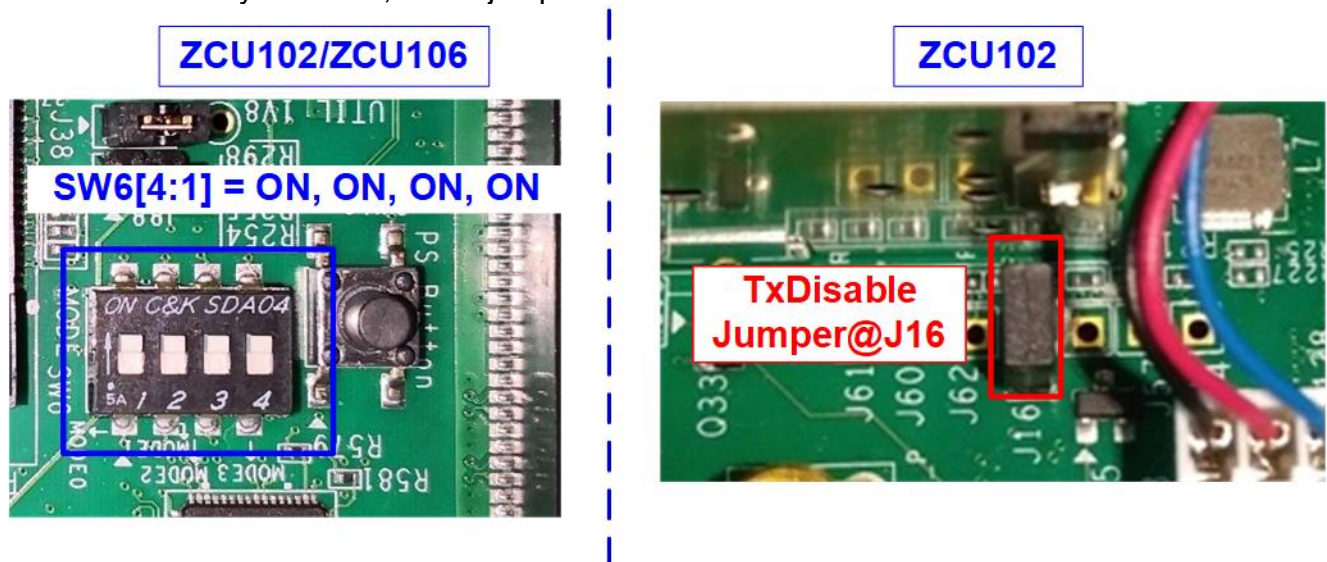

Figure 2-1 ZCU102/ZCU106 board setting
- a) Board setting on ZCU102/ZCU106 board is shown in Figure 2-1.